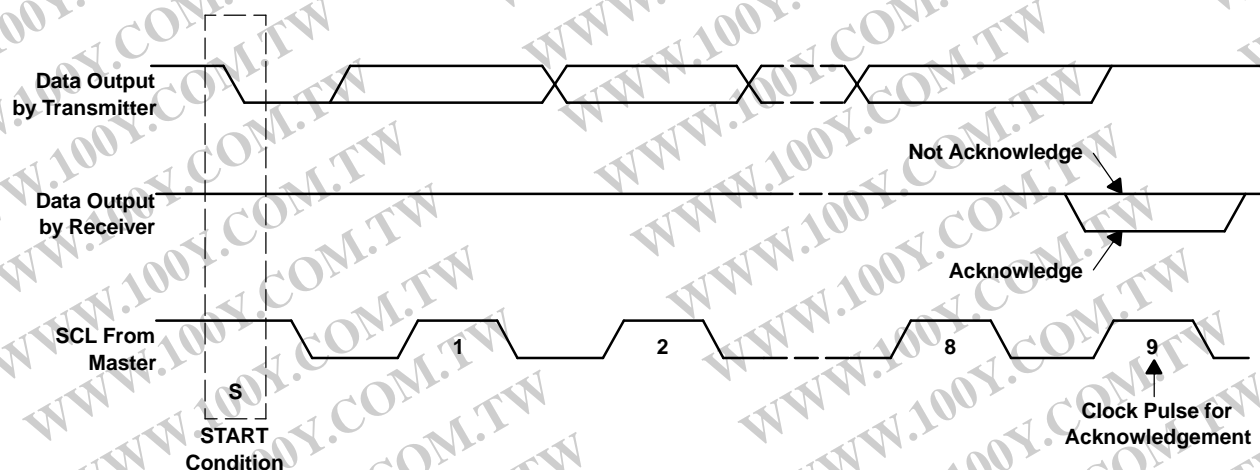

Figure 42. Acknowledge on the I²C Bus
- The addressed Slave responds by pulling the SDA pin low during the ninth clock pulse, termed the *Acknowledge* bit (see Figure 42). At this stage all other devices on the bus remain idle while the selected device waits for data to be written to its shift register.